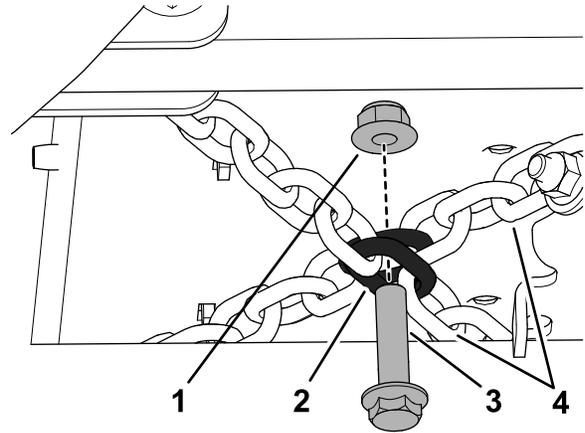

Figure 15
- Where the chains cross (Figure 15), assemble them with a flange-head bolt (3/8 x 1-1/2 inches) and flange locknut (3/8 inch).